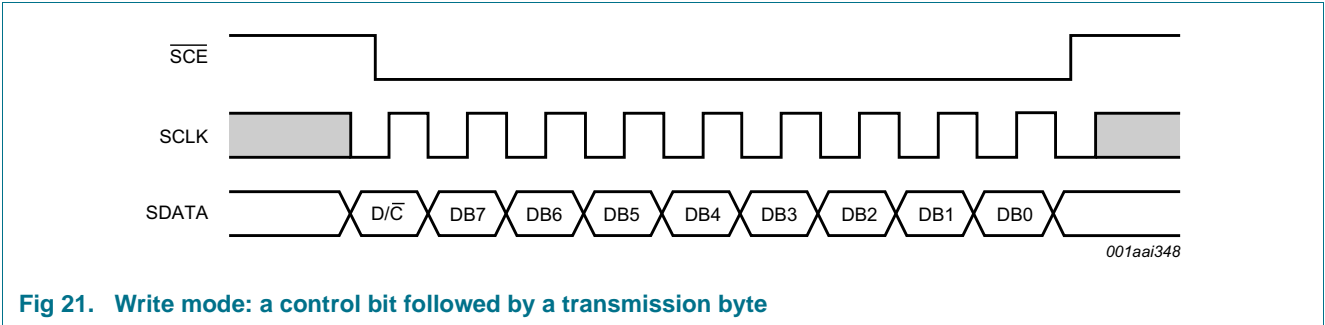
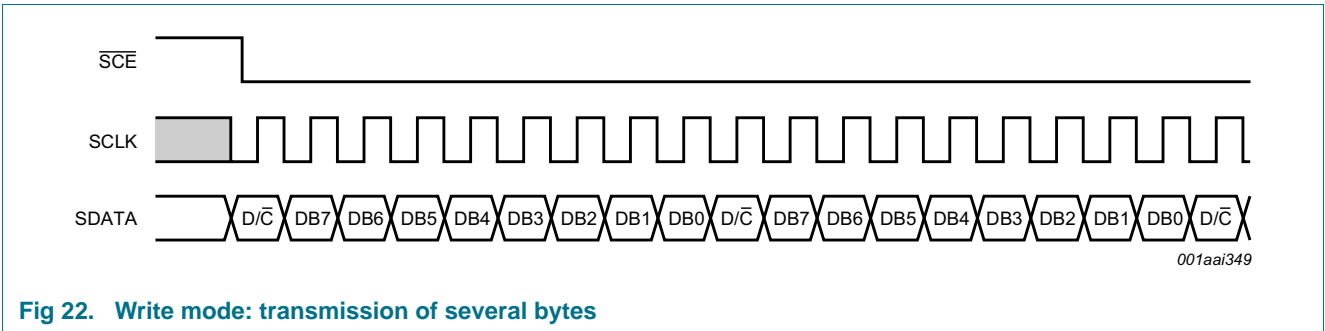
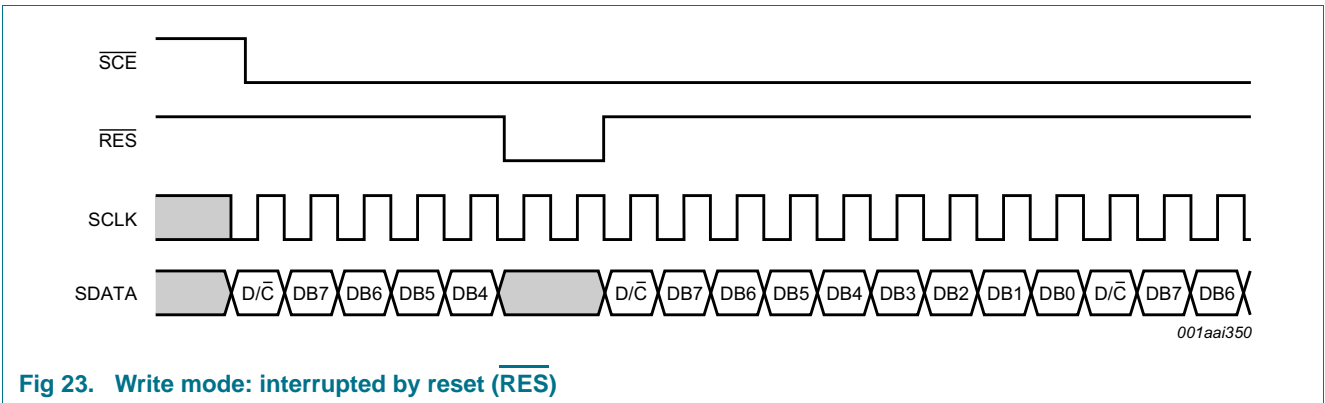

Fig 21. Write mode: a control bit followed by a transmission byte
Fig 22. Write mode: transmission of several bytes
Fig 23. Write mode: interrupted by reset ($\overline{\text{RES}}$)
Figure 21, Figure 22, and Figure 23 show the protocol of the write mode:
- If \overline{SCE} stays LOW after the last bit of a data/command byte, the serial interface receives the D/\overline{C} bit of the next byte on the next rising edge of SCLK, see Figure 22
- A reset pulse \overline{RES} interrupts the transmission. The data being written into the RAM may be corrupted. The registers are cleared. If \overline{SCE} is LOW after the rising edge of \overline{RES} , the serial interface is ready to receive the D/\overline{C} bit of a data/command byte, see Figure 23.